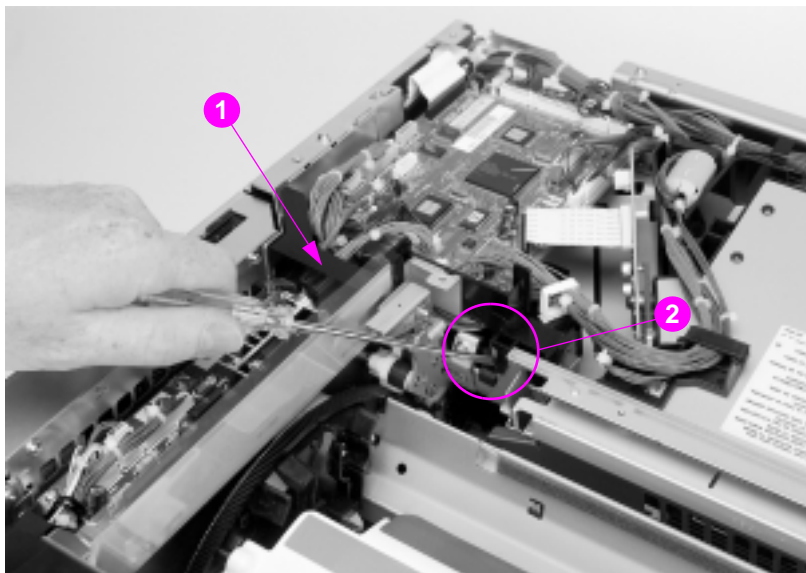

Figure 6-16 Developing board removal and replacement (1 of 2)
- 4 Remove the black plastic shield shown in Figure 6-16 (callout 1) by lifting the two tabs shown (callout 2). Lift up on the shield to remove it.